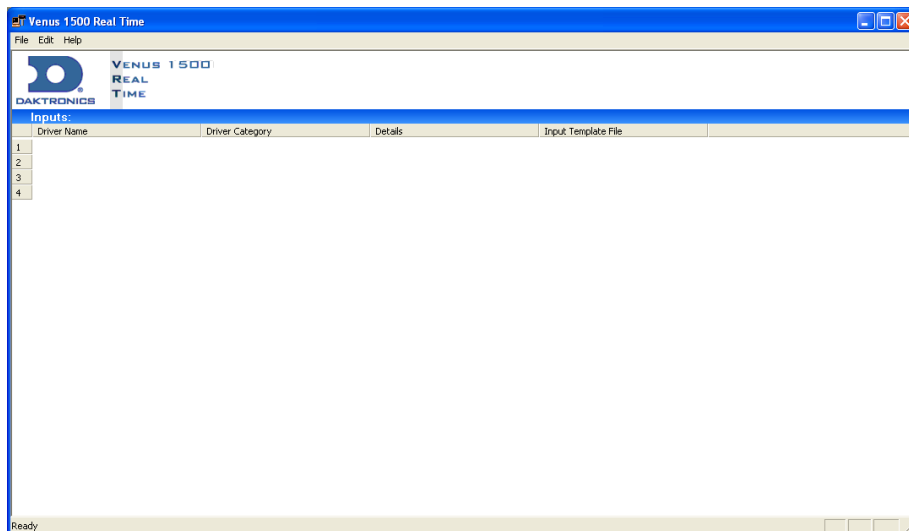

Figure 7: Venus 1500 Real Time
2. In the Venus 1500 Real Time main window (*Figure 7*), double-click on Input 2 (Input 1 is reserved for data coming directly from the timing console).